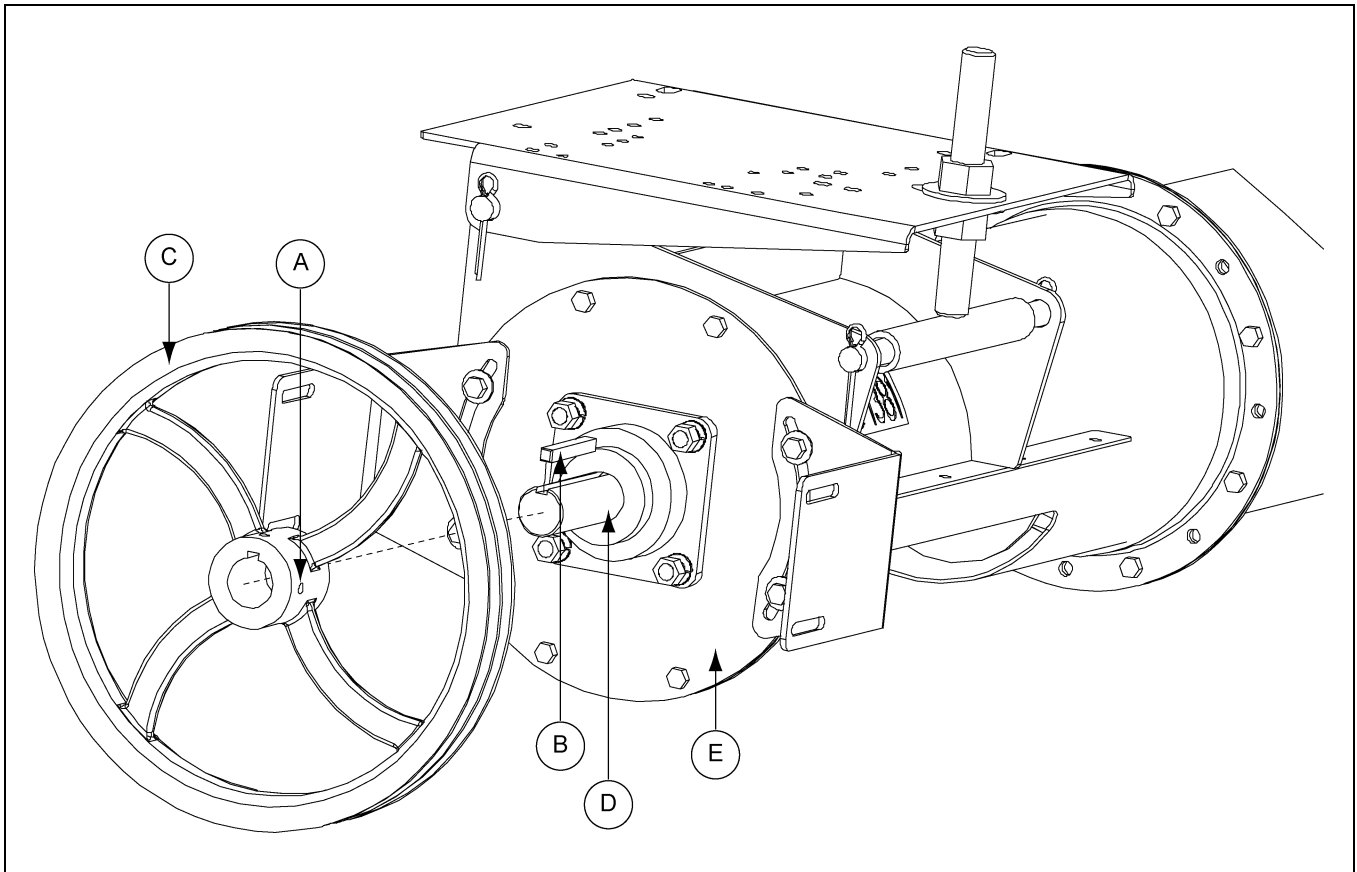

Figure 4S
1. Place and position the key (B) into the keyway located on the drive shaft (D).
2. Place the pulley (C) onto the drive shaft (D) with the set screw (A) side of the pulley (C) facing away from the bearing plate (E). Position the pulley (C) so that it is as close to the lock collar as possible, but not touching it.
3. Once the pulley (C) is appropriately positioned, tighten the set screw (A) with a hex head wrench to secure it to the drive shaft (D). (See Figure 4S.)